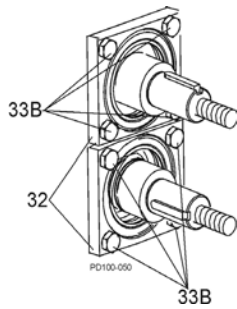

Figure 41 - Remove Bearing Retainers
3. Remove the front bearing retainer screws (Figure 41, item 33B) and pull off the bearing retainers (item 32). (If a retainer is stuck, leave it in place; it will press out when the shaft is removed.)